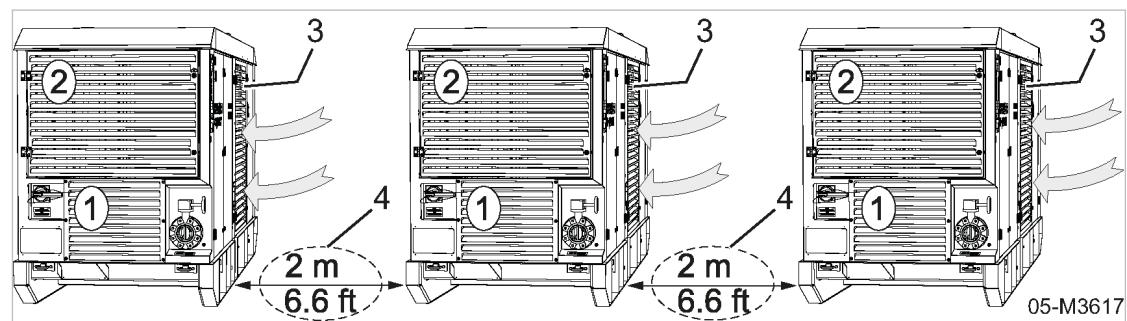

Fig. 20 Minimum distance if several machines are set up
2. Keep the minimum distance to the machine that has already been set up, see Figure 20.